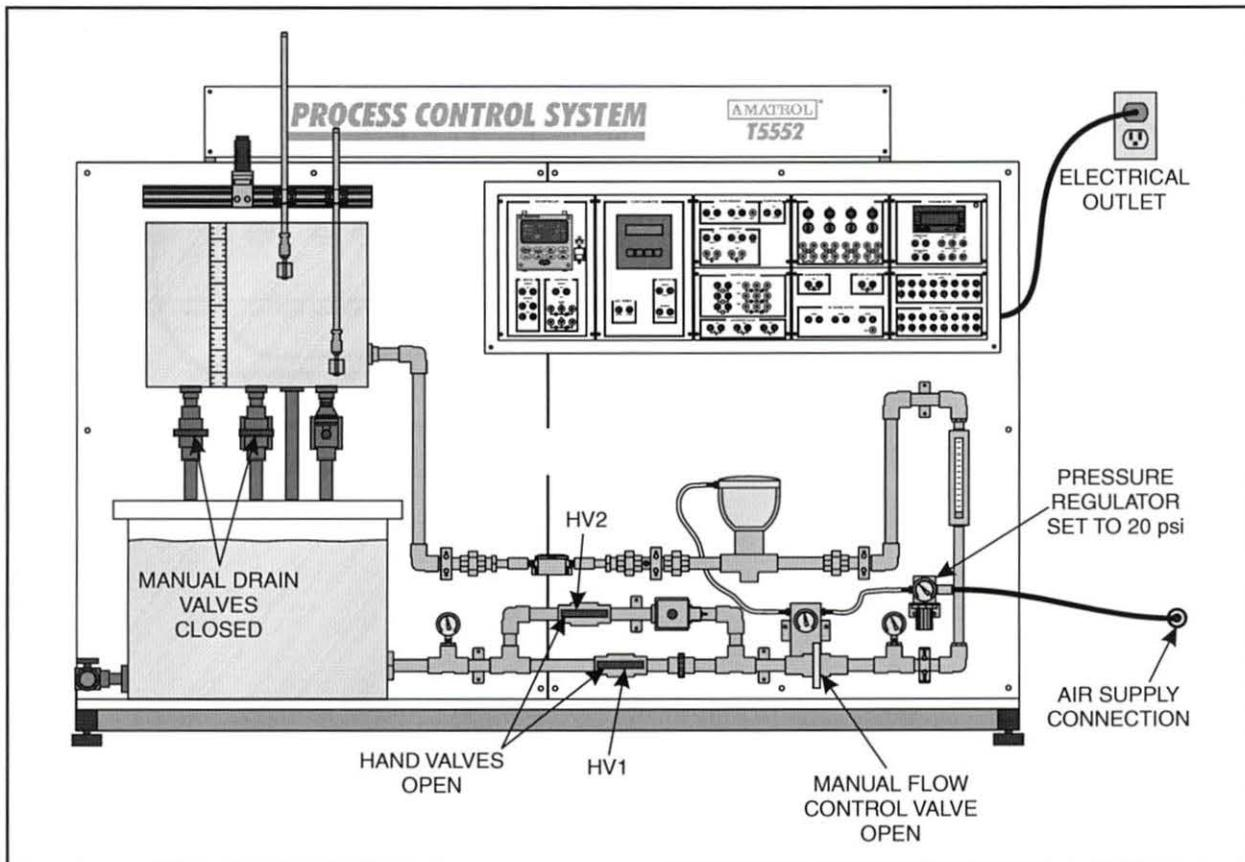

Figure 54. T5552 Setup
- 2. Perform the following substeps to set up the T5552, as shown in figure 54.